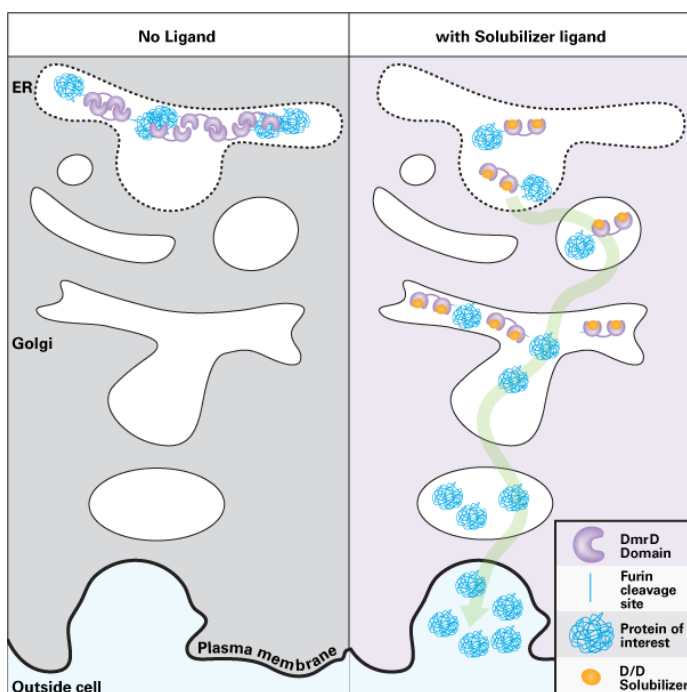

Figure 3. Induction of protein secretion by addition of D/D Solubilizer.
- induce protein secretion following accumulation of engineered proteins in the endoplasmic reticulum (Figure 3).
The iDimerize Reverse Dimerization System can be used to turn *on* a process that is *inactivated* by oligomerization. A key example is the regulation of protein secretion through controlled aggregation in the endoplasmic reticulum (ER). The use of this system to control secretion (Figure 3) involves the addition of DmrD domains to a secreted protein of interest, i.e., between the signal sequence and the mature protein (Rivera *et al.*, 2000). The resulting fusion proteins localize and accumulate in the ER as aggregates. Addition of the D/D Solubilizer dissolves the aggregates and allows the protein to be exported through the secretory apparatus. To ensure secretion of the authentic protein, a cleavage site for the specific endopeptidase furin is interposed between the DmrD domains and the protein of interest. Since endogenous furin is exclusively expressed in the trans Golgi, the fusion protein will be processed as it traverses this compartment, resulting in the secretion of the correctly processed protein (as well as the separate DmrD moiety). Thus, this system allows ligand-dependent control of secretion.